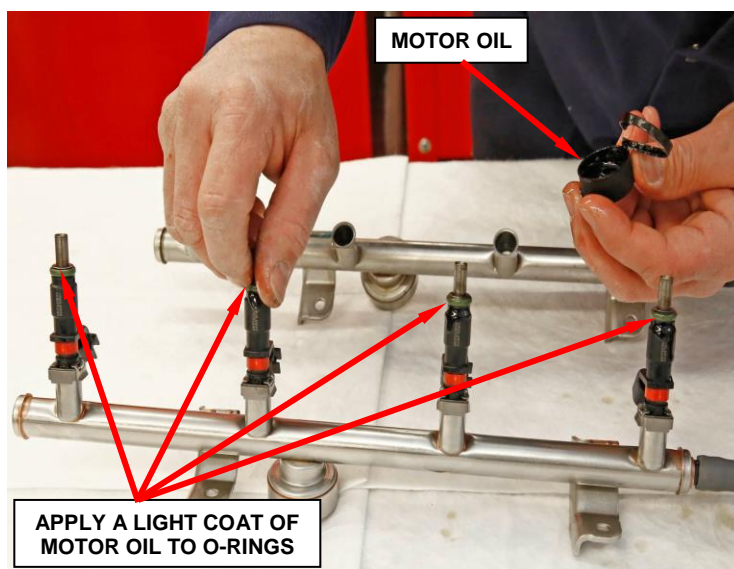

Figure 14 – Apply a light Coat of Motor Oil onto Green Fuel Injector O-Rings
13. Apply a light coat of engine oil to the green fuel injector O-rings (Figure 14).